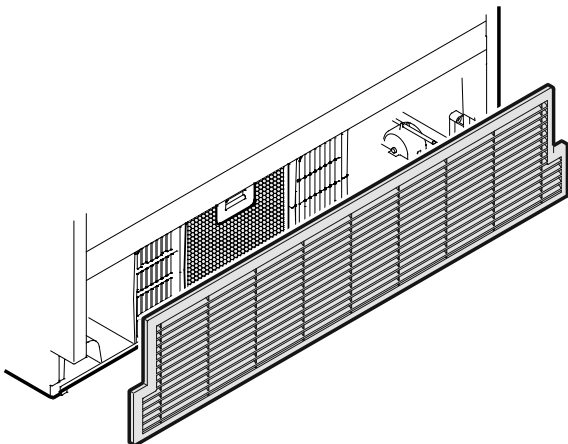

Figure 35
3. Mount the ventilation grille as shown in **Figure 35**.